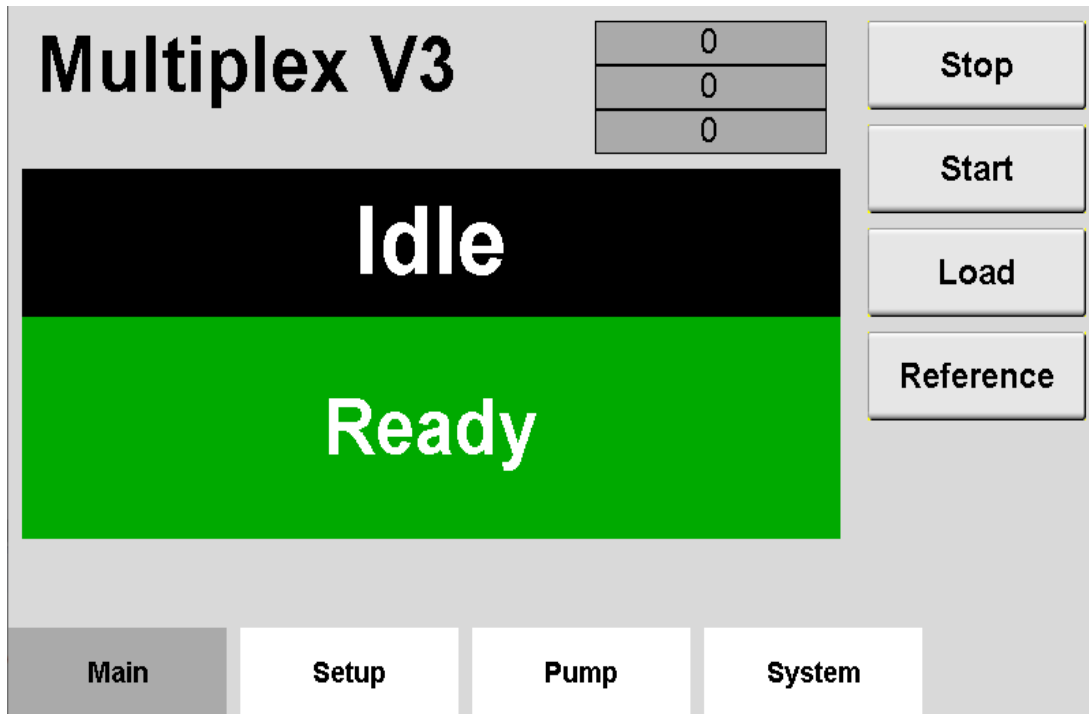
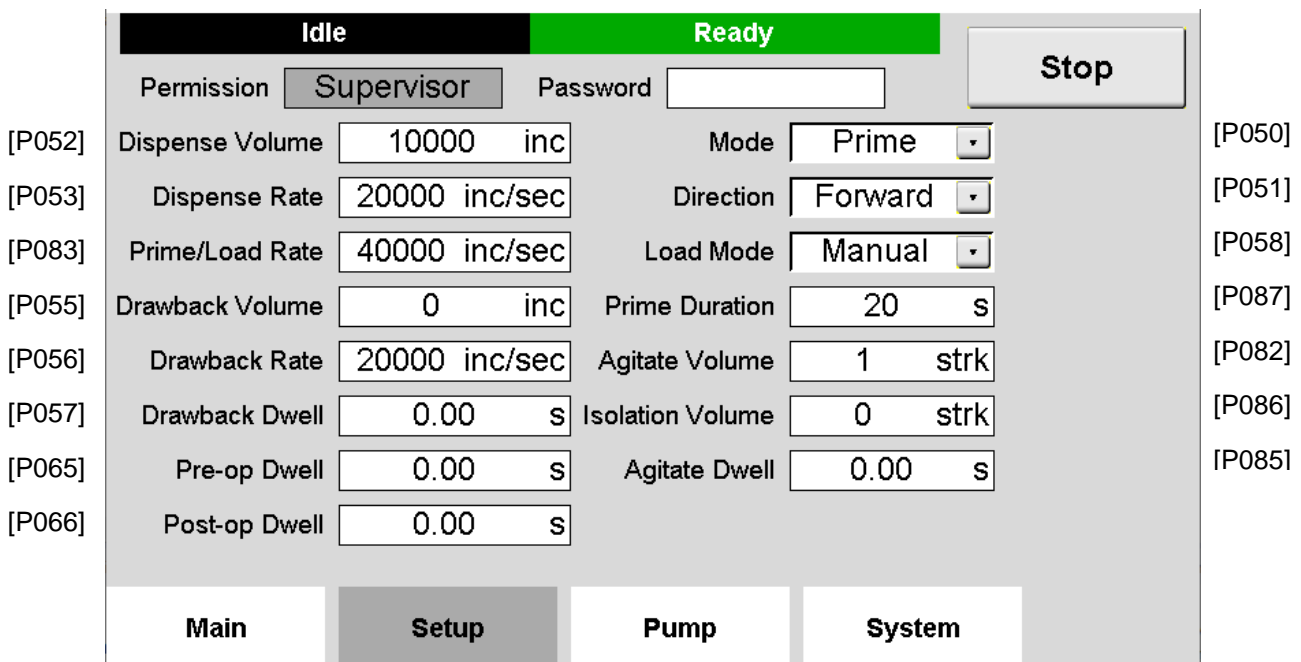
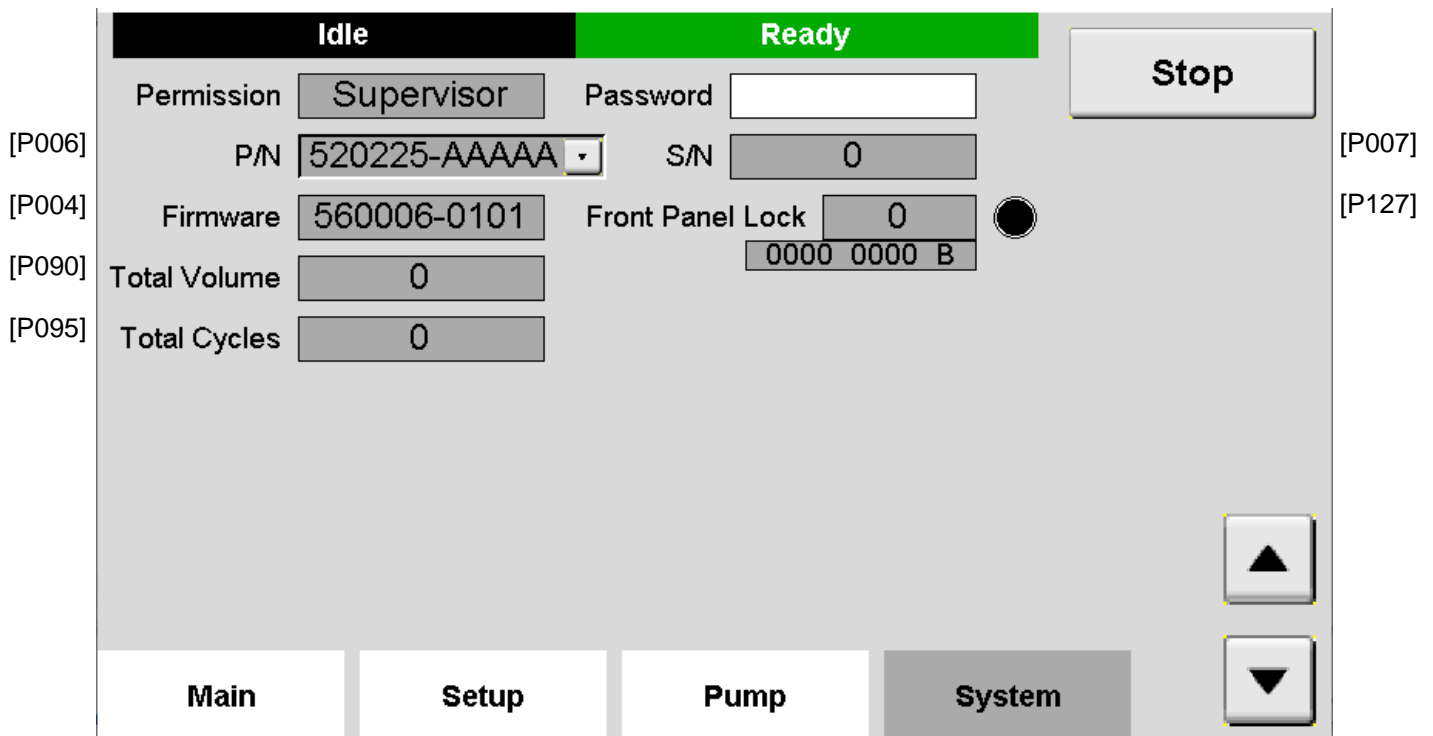

Figure 3.5 Main Screen
Figure 3.6 Setup Screen
Figure 3.8 System Screen
Prime mode produces a continuous cycle to pump fluid in one direction. The current setting for the liquid direction determines the direction of the fluid flow. The operating mode and liquid direction setting can be viewed in the Setup screen (Figure 3.6). Pumping is started using the "START" button in the Main screen (Figure 3.5). The pumping will continue until the "STOP" Button is pressed or until the maximum time set with the "PRIME DURATION" button in the
Setup screen (Figure 3.6) is reached. The time-out ensures a communications problem will not result in the pumps operating forever.
The flow rate for priming is set in the Setup screen (Figure 3.6). Volume pumped during prime operation does not accumulate on the totalizer viewed in the System screen (Figure 3.8).
Dispense and Dispense MCV (minimum chamber volume) modes are used to deliver a specific volume of fluid at a specific rate. Dispense MCV will only fill the chamber with the amount of liquid to be dispensed. Dispense fills the entire chamber. The current setting for the liquid direction determines the direction of the fluid flow. The operating mode and liquid direction setting can be viewed in the Setup screen (Figure 3.6). Pumping is started using the "START" button in the Main screen (Figures 3.5). The dispense cycle will continue until the volume, set using the Setup screen (Figure 3.6) has been delivered, unless the "STOP" button is pressed.
The volume and the rate are set in the Setup screen (Figure 3.6). A Load cycle is required anytime the mode is changed to or from Dispense MCV Mode.
Meter mode is used to deliver fluid at a specific rate for a specific time determined by hardwired input signals or through the touchscreen. The operating mode and liquid direction setting can be viewed in the Setup screen (Figure 3.6). The most accurate and repeatable method to control metering operation uses the hardwired PLC inputs. Pumping starts when the hardwired signal is present and will stop when the hardwired signal stops. Pumping can also be operated with the "START" and "STOP" buttons in the Main screen (Figures 3.5).
The metering rate is set in the Setup screen (Figure 3.6).
Volume pumped during meter operation accumulates on the totalizer which is viewed in the System screen (Figure 3.8).
Agitate is a unique mode used to prevent fluid from setting in the pumps or pump lines during extended idle times. Agitate mode is a reverse action followed by a sequence of reverse and forward pumping to keep the liquid in the lines and Pump Modules moving. The operating mode setting can be viewed in the Setup screen (Figure 3.6). Pumping is started using the "START" button in the Main screen (Figures 3.5). The agitate cycle will continue until the "STOP" button is pressed.
The Agitate Volume specifies the strokes the pump will operate in reverse then forward. The Isolation Volume specifies the number of full strokes operated in reverse. The Agitate Volume specifies the strokes the pump will operate in reverse then forward. The Agitate Dwell specifies the wait time between each reverse and forward cycle. All three of these settings are viewable in the Setup screen (Figure 3.6)
Under certain conditions the controller may require a reference cycle when a fault occurs because it does not sense the rotary position of the piston. When the "REFERENCE" button on the main screen (Figure 3.5) is pressed, the piston will find the rotary home and stop at this position.
The Drawback settings are done in the Setup screen (Figure 3.6). When drawback is used, the "VOLUME" button specifies the net fluid displaced, the actual forward motion is the sum of the specified dispense volume and the drawback volume. The flow rate during drawback as well as the dwell (time between the forward and reverse portions of the cycle) are specified with the "DRAWBACK RATE" and "DRAWBACK DWELL" buttons, respectively.
The load cycle is used to refill the pumping chamber with fluid after dispensing or metering. The piston will valve to the intake port (inlet), fill the pump chamber with fluid, and valve back to the discharge port (outlet). The system can be configured to start a load cycle on either of three conditions: empty, every or manual. The Load setting is done in the Setup screen (Figure 3.6).
Buttons - A button initiates a command being sent to the Controller Module. The "Start" and "Stop" area in the Main screen (Figure 3.5) are examples of buttons.
Boxes - A box looks like a button but provides information only. Pressing a box will have no effect on the system. The "Total Volume" area in the System Screen (Figure 3.8) is an example of a box.
The **I/O Test** level does not allow changing system parameters other than the I/O Test parameters (Figure 3.6).
The first screen displayed will be the Main screen (Figure 3.5). This screen is displayed each time power is turned on. The "REFERENCE" button must be pressed before the system will perform pumping operations.
3.2.5.4 Main Screen (Figure 3.5)
3.2.5.5 Setup Screen (Figure 3.6)
3.2.5.7 System Screen (Figure 3.8)